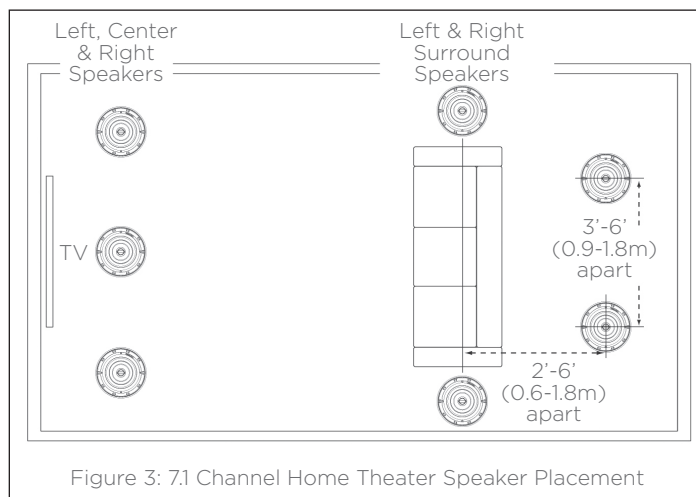

Figure 3: 7.1 Channel Home Theater Speaker Placement
- Left & Right Surround Speakers:** Place the left and right surround speakers directly to the sides of the listening position, 6 - 10 feet (1.8 - 3m) apart (see Figure 3).